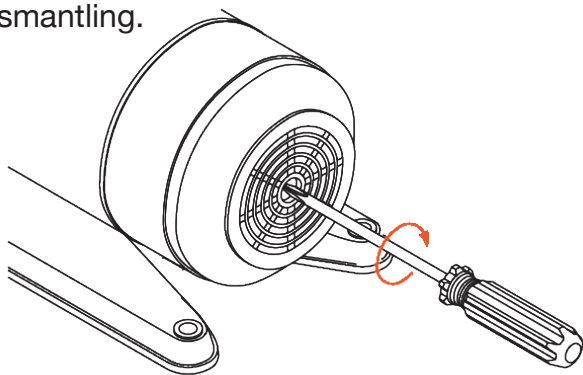

Fig. 9
3. If the pump shaft is seized up after periods of inactivity, please place a screw driver from the motor end to rotate the shaft. It should free the pump shaft. (See Fig. 9) If this does not remedy the problem, the unit will need dismantling.